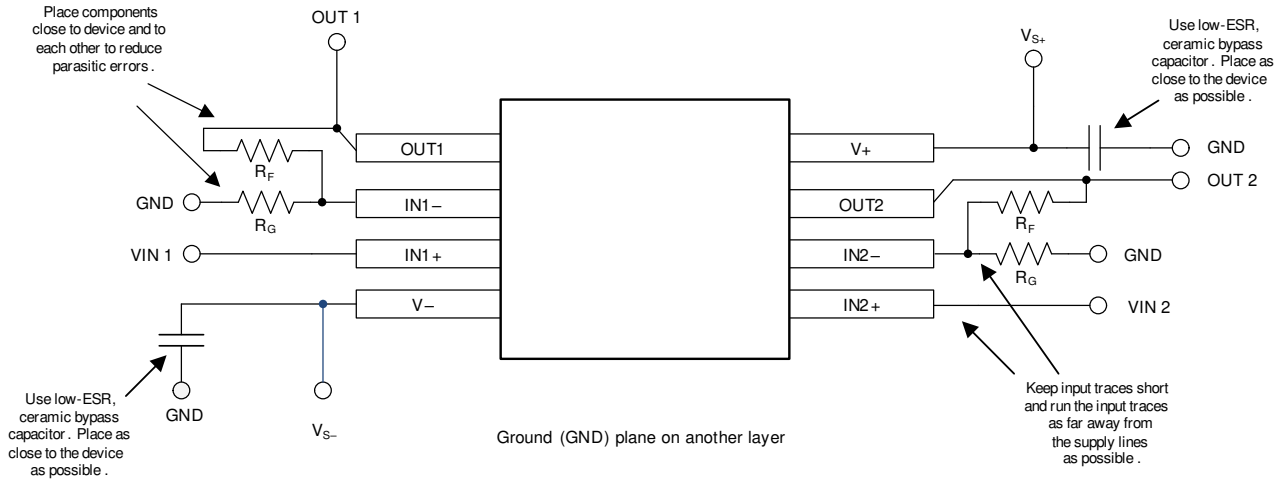

图 12-2. Layout Example
- Place the external components as close to the device as possible. As illustrated in Figure 12-2, keeping R_F and R_G close to the inverting input minimizes parasitic capacitance on the inverting input.